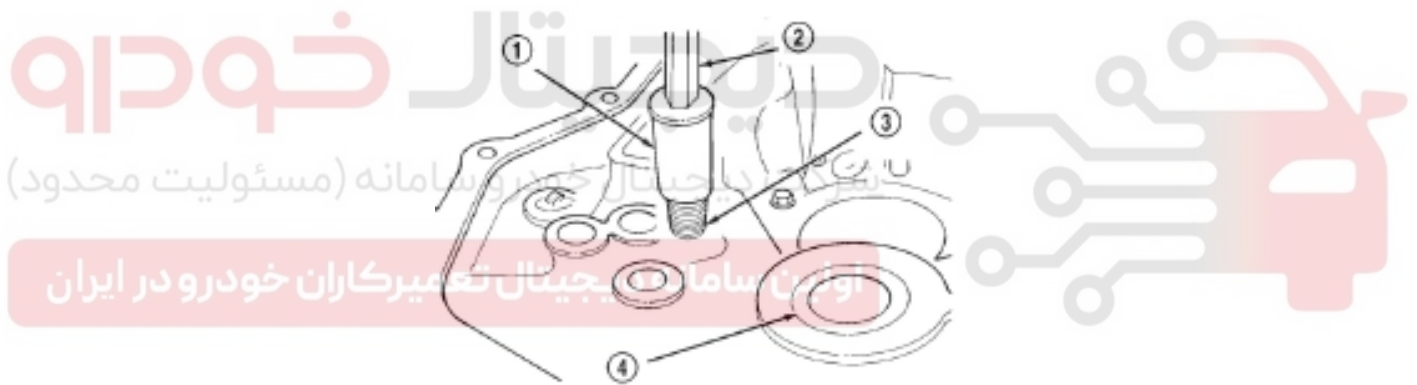

Figure 3-156 Disassembly of shift rail bushing
- (1) Screw instrument 6786 in transmission bushing.
- (2) Mount rolling weight 3752 on the instrument.
- (3) Disassemble bushing with rolling weight and instrument assembly (Figure 3-156).